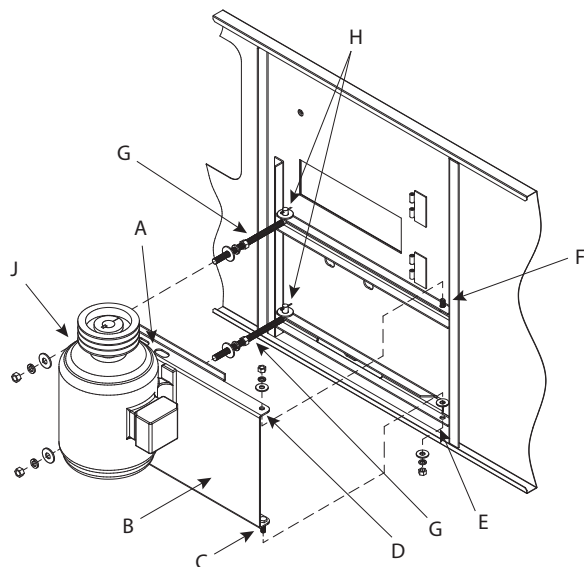

Figure 17a - External Motor Installation
1. Study Figure 17a above before installing the motor base on the unit.